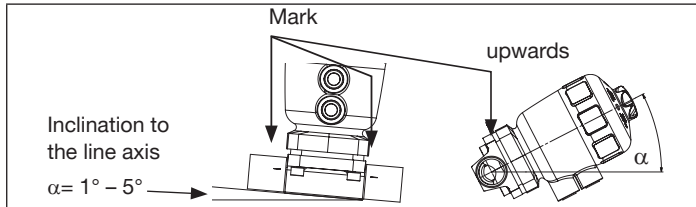

Fig. 2: Installation position for self-drainage of the body
- Install body at an angle $\alpha = 10^\circ$ to 55° to the horizontal (see “Fig. 2”).
- Forged bodies, tube valve bodies and cast bodies feature a mark which must face upwards (12 o'clock position, see “Fig. 2”).